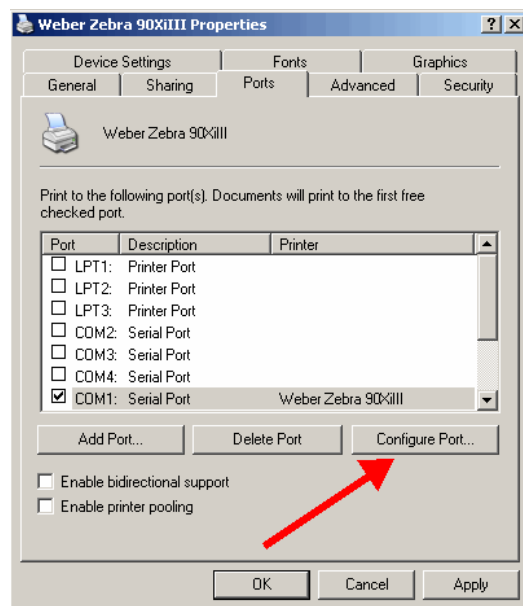

Figure 27a
**NOTE:** If you need to make changes to your port settings click on the Configure Port button, (Figure 27a, b). Ask your IS department if such changes are needed. (The recommended COM1 settings are shown)